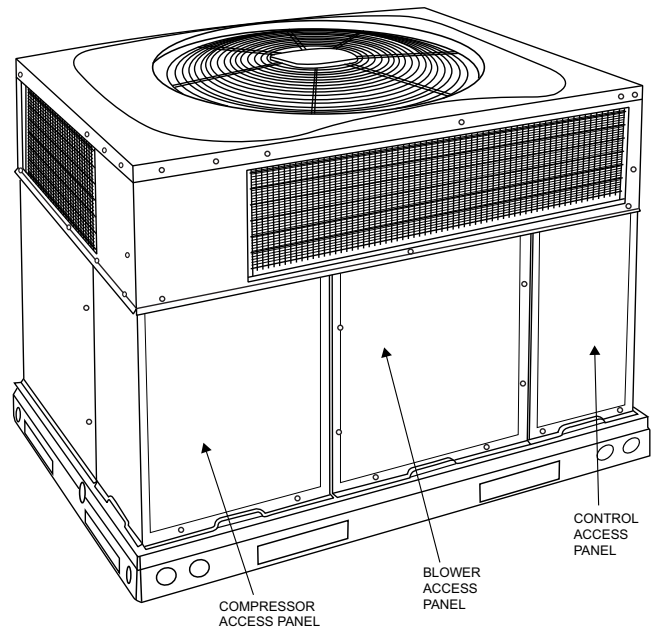
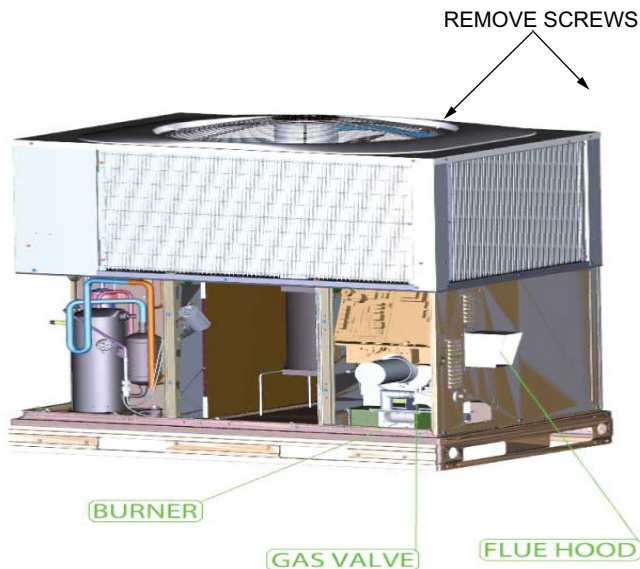
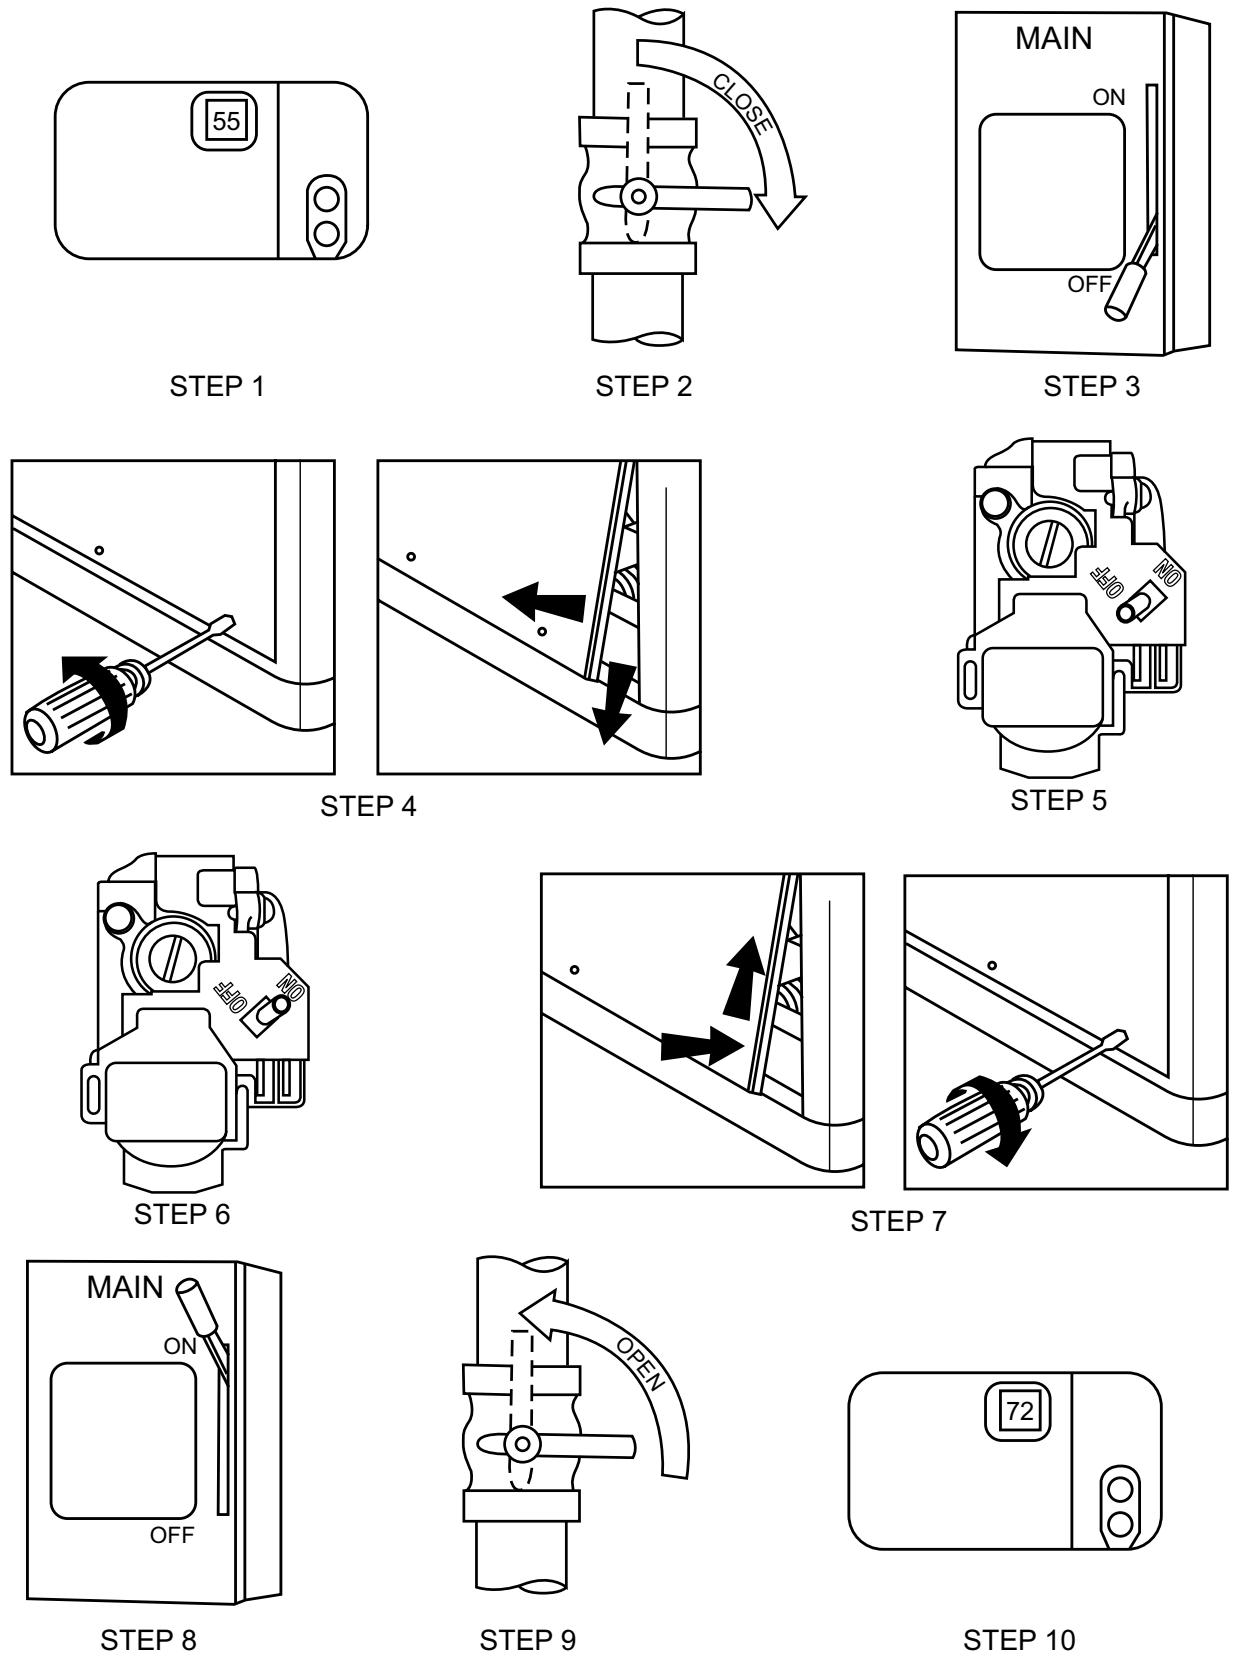

Fig. 2 – Unit Access Panel
Fig. 3 – Gas Heating/Electric Cooling Unit with Access Panel
Fig. 4 – To Start Unit Gas Heat
Refer to Fig. 2 for location of unit front access panel. Refer to Fig. 3 for location of gas valve. Refer to Fig. 4 while proceeding with the following steps.
4. Remove the control access panel with a 5/16-in. nut driver. (See Fig. 2.)
4. Remove the control access panel. (See Fig. 2.)
To replace or inspect filters in accessory filter rack (See Fig. 2):